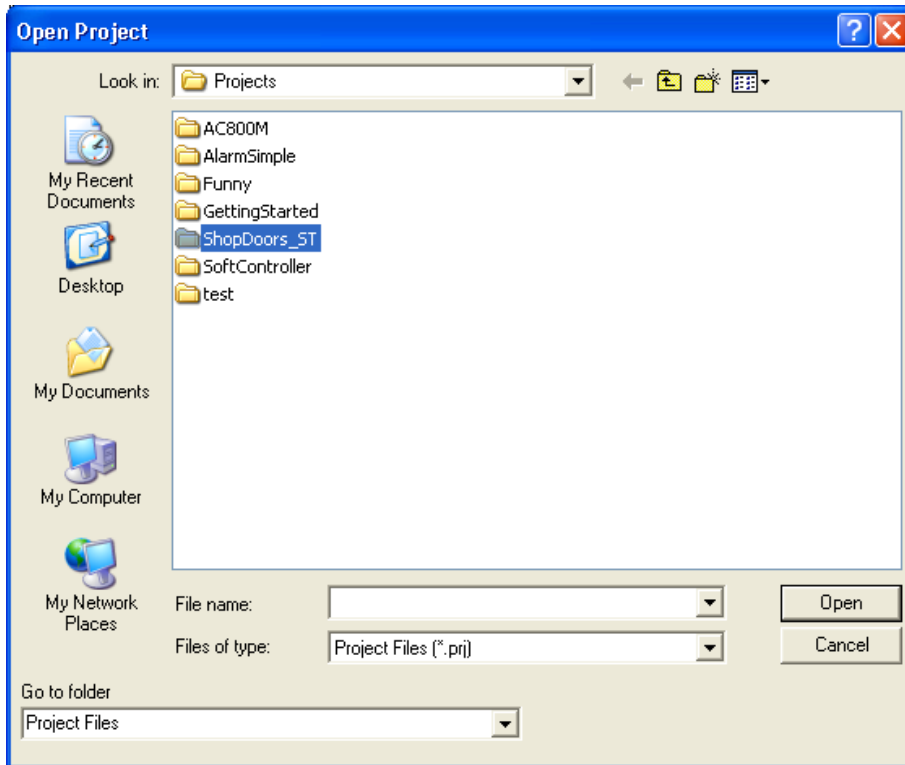

Figure 40. The Open project window
1. From the Project Explorer, select **File > Open Project**. An Open Project window opens (Figure 40).